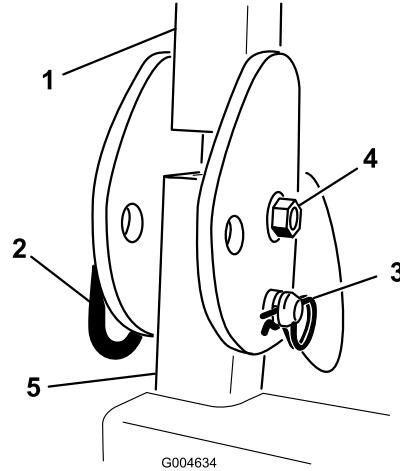

Figure 2
1. ROPS post	3. Rivet (2)
3. Install the bolt, nut, hair pin cotter and pin securing each ROPS assembly to the ROPS posts (Figure 2). Torque the nut and bolt to 67 to 83 ft-lb (91 to 113 N-m).